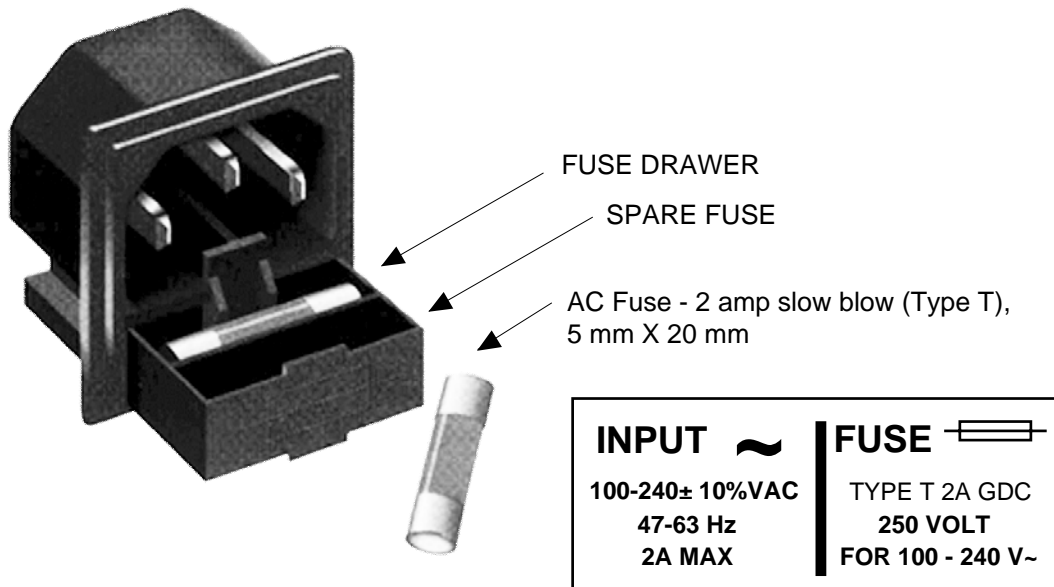

FIGURE 2.3 Fuse Location and Spare Fuse
- 6.) **AC Fuse** - The fuse is a 5 mm X 20 mm, 2 amp slow blow (Type T) and is inserted in the far slot in the drawer below the AC input as shown in Figure 2.3. There is a spare fuse in the near slot.